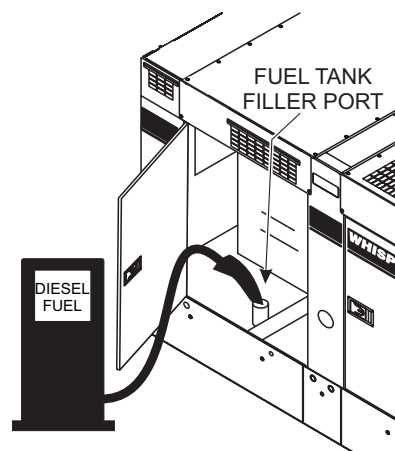

Figure 33. Fueling The Generator
2. Open the enclosure door, remove the fuel cap and fill tank as shown in Figure 33.